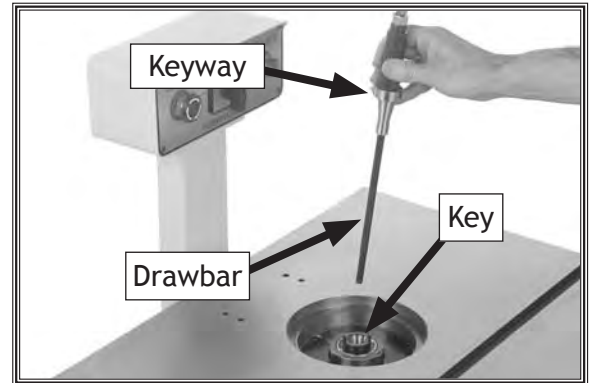

Figure 19. Inserting spindle assembly into arbor.
4. Insert the spindle assembly into the arbor, drawbar side down, making sure that the arbor keys fit into the spindle keyways (Figure 19).